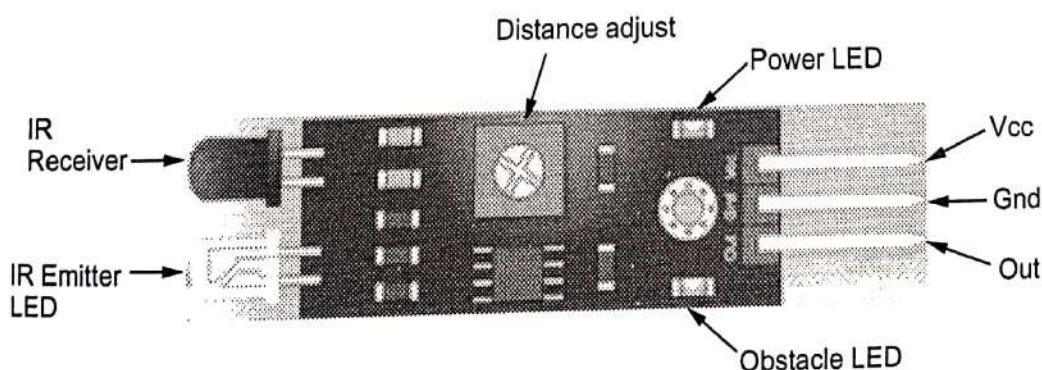

Fig. 2.3.4 : Obstacle sensor
- Fig. 2.3.4 shows obstacle sensor.